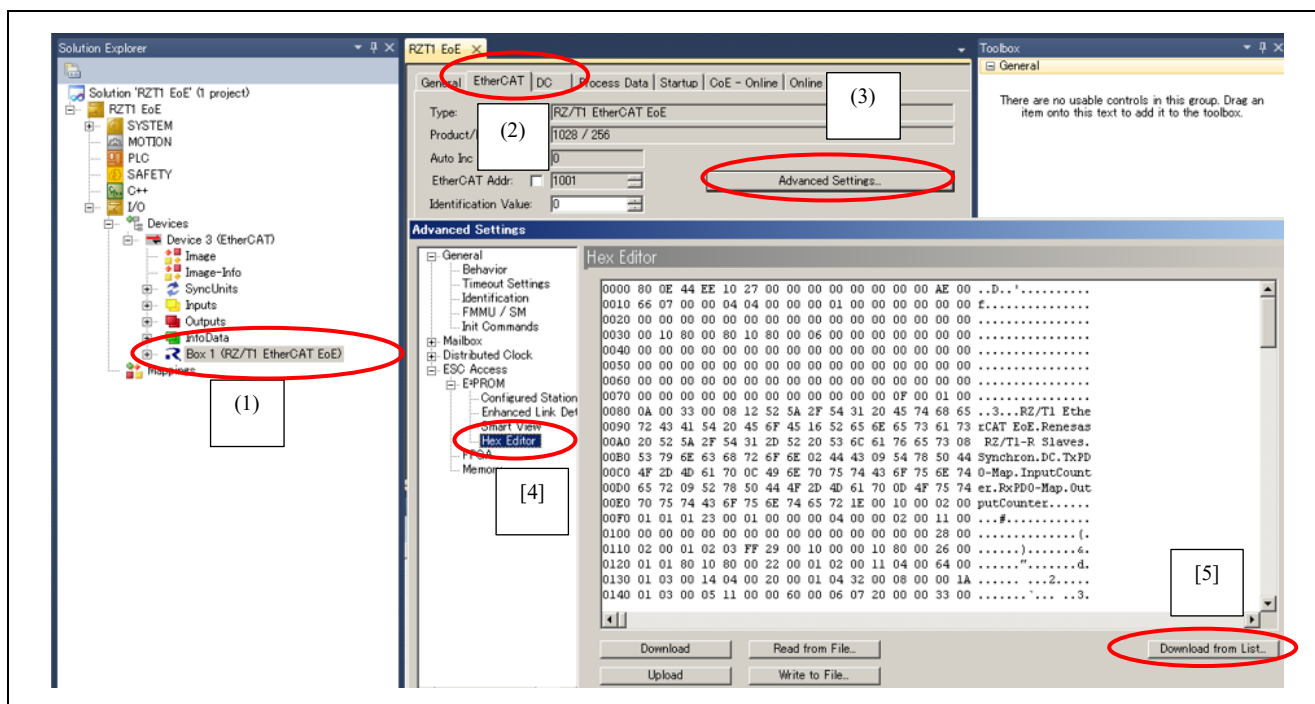

Figure 7.4: EEPROM rewriting procedure 1
- (1) Double click on [Box 1], the panel as shown in Figure 7.4 will be displayed.
- (2) Select [EtherCAT] tab
- (3) Click the [Advanced Setting] button.
- (4) Select [ESC Access] ⇒ [EEPROM] ⇒ [Hex Editor]
- (5) Select [Download from list].
- (6) Select [Available EEPROM Description].